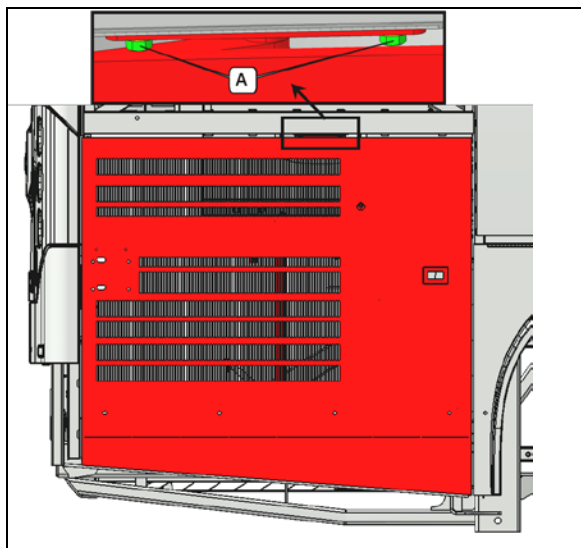

FIGURE 50
2. Make sure bolts A are tight (FIGURE 50).